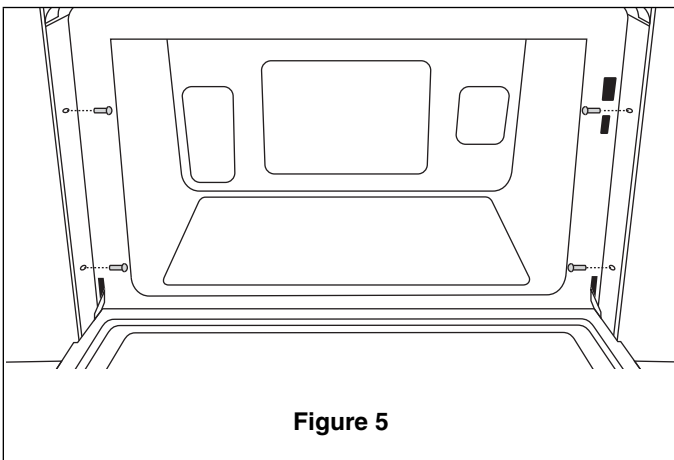

Figure 5
7. Check alignment of oven then tighten the 4 mounting bolts in Figure 5 and the 2 shoulder bolts in Figure 6 to secure oven.